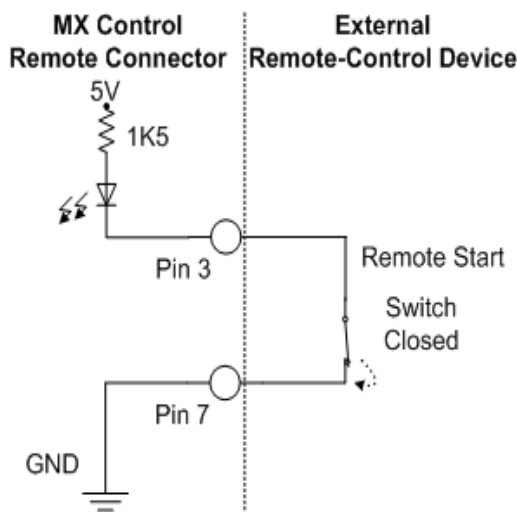

Figure A-1: Example of Remote Switch
Of these seven pins, your external switch is concerned with the two control input pins (3 and 5) and the ground pin (7). In order to start a remote capture, your external switch must force pin 3 to GND (that is, short circuit it). In order to stop a remote capture, your external switch must force pin 5 to GND. Figure A-1 illustrates the external switch between control input pin 3 and ground pin 7 closed to start a remote capture.